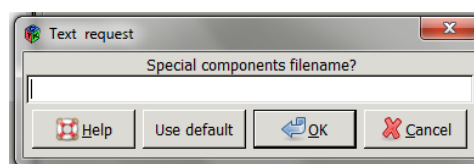

Figure 6
**Step 6:** This special component file then has to be named so that it can be used later in the simulations, this can be named anything you want. Once you have named the file, click *>ok* (figure 6)